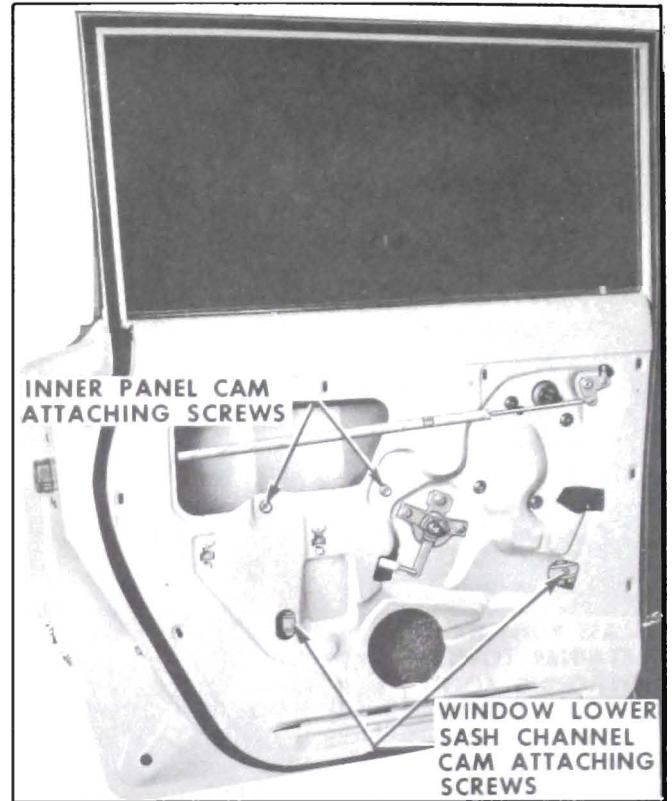

Figure 13-52—Inner Panel Cam and Window Lower Sash Channel Cam Attachment
1. Raise door window. Remove door trim assembly and detach inner panel water deflector sufficiently to expose inner panel cam attaching screws. See Figure 13-52.
2. Lower door window sufficiently to gain access to sash channel cam attaching screws through access holes in door inner panel and remove screws. See Figure 13-52.
3. Carefully lower door window and through access holes in door inner panel, remove screws securing window lower sash channel cam to window lower sash channel. See Figure 13-52.
1. To adjust rear door window in or out, lower door window. Loosen rear glass run channel retainer assembly attaching screw and adjust guide assembly as required; then tighten screw. See Figure 13-52.
window inner panel cam front and/or rear attaching screw(s), adjust cam as required, and tighten screws. See Figure 13-52.